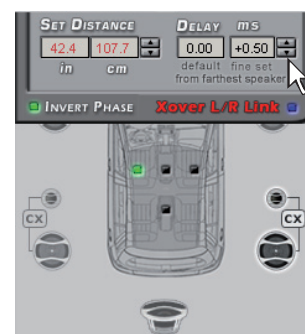

Fig.6
For groups of speakers choose an intermediate point between them. It will then be possible to perform fine tuning by using the Fine Set function. (fig.6)
5. Perform all time delays settings, start playing music and select the Fine Set box. As you move it positive or negative (except for the Subwoofer in Fig.6 since it is the farthest speaker), you will find the best time alignment and correct acoustic scene.